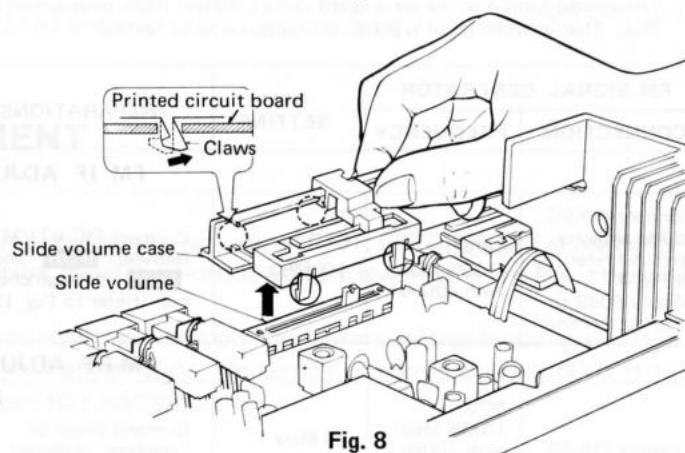

Fig. 8
7. The claws projected (at 4 portions) from the slide printed circuit board are engaged with the slide volume. Disengage the claws from by screw driver or the like to remove the slide volume case. (Fig. 8)